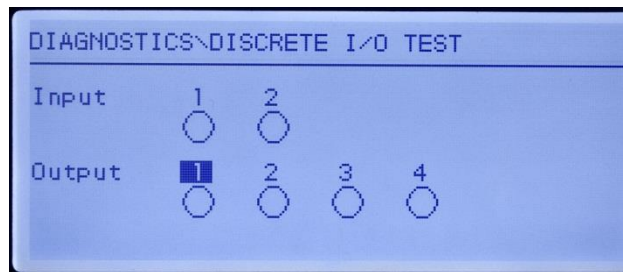

Figure 5-5: Discrete I/O Test Screen
- 2 Press **ENTER** to continue to the diagnostic screen. When viewing the test screen, the input status will be shown at the top of the display and the output status will be shown at the bottom of the display (Figure 5-5).